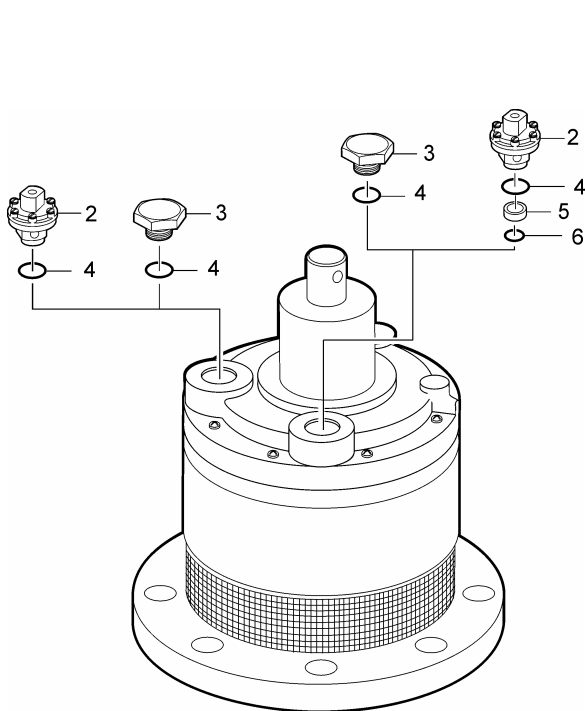

FIGURE 1A
| <p>4.1 All valves except as noted - Refer to Figures 1A, 1B, 2A or 2B for exploded views of the unit.</p> <p>4.2 Remove the six Screws (8) and Washers (9) from the Bonnet (23) or (24) and put a side for reuse.</p> <p>4.3 Rotate the bonnet slightly in either direction and pull it from the Body (28). On the 64055 the Piston (12) and its attaching parts will come out of the Body (28) with the bonnet as Piston Assembly (10). Continue on with the next paragraph if the unit being disassembled is the 64055. Skip to paragraph 4.5 if it is a 64143. Skip to paragraph 4.11.1 if it is 64174 basic, options C or CE.</p> <p>4.4 64055:</p> <p>4.4.1 Find the Pin (17B) in the Shaft Assembly (17). Use the spring pin to hold the shaft in place and remove Rod (11) by unscrewing it, being careful not to drop Piston (12). Remove Piston (12) and Spring (13).</p> <p>4.4.2 Remove Ring (14), Spring Pad (15) and Spring (16). Remove O-ring (22) from Bonnet (23) and discard it.</p> <p>4.4.3 Using the pin used in paragraph 4.4.1 hold the Shaft Assembly (17) while unscrewing Housing (18). Pull Housing (18) off of Bonnet (23).</p> <p>4.4.4 Remove Wipe Ring (20) and Quad-Ring (21) from Bonnet (23). Discard both items. Skip to paragraph 4.6.</p> <p>4.5 64143:</p> <p>4.5.1 Remove Bonnet (24) then remove Spring (13). Remove O-ring (22) from Bonnet (24) and discard it.</p> <p>4.5.2 Reach into body (28) opening and carefully extract the Piston Assy (25).</p> <p>4.5.3 Unless replacement is needed it is recommended that Set Screw (27) and Nut</p> | <p>(26) in the face of the piston not be removed.</p> <p>4.6 64055 & 64143 - Remove and discard O-ring (29) and Seal (30) from Body (28).</p> <p>4.7 Unless the Screen (33) is damaged and needs replacement, do not remove it from the Body (28). If it needs replacing then remove Screws (31) and Nuts (32) to do so.</p> <p>4.8 On the basic unit, remove the Plug (3) only if it has been leaking. If it is removed, then discard Gasket (4).</p> <p>4.9 On Options A or B - Unscrew Pilot Valve Assy (2) from Bonnet (23) or (24) and remove and discard Gasket (4). On "B" option to either unit, remove secondary Pilot Valve Assy (2). Orifice (5) and Gasket (6) will be found under the secondary Pilot Valve Assy (2). Remove them and discard Gasket (6).</p> <p>4.10 Pilot Valve Assy (2) may be replaced as a complete unit or overhauled as follows:</p> <p>4.10.1 Remove six Screws (34) and Washers (35).</p> <p>4.10.2 Using a thin blade screwdriver, pry the Cover (36) from the assembly. Be careful not to scratch the flanged surface of either metal part holding the diaphragms in place.</p> <p>4.10.3 Remove and discard the two Diaphragms (37).</p> <p>4.10.4 Remove Pressure Pad (38) from Poppet (40) shaft.</p> <p>4.10.5 Remove Ring (39), which retains Spring (42) and Washer (41) in place. This will free up the remaining parts for removal.</p> <p>4.11 64174, C & 64174CE:</p> <p>4.11.1 64174 – Refer to Figure 4 – Find Pin (17B) in the Shaft Assembly (17). Use the spring pin to hold the shaft in place and remove</p> |
Refer to Figures 1A and 1B